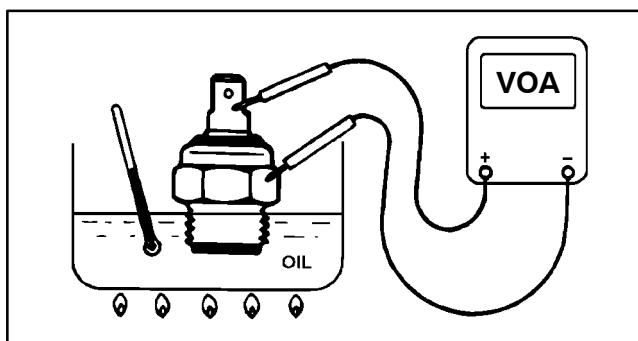

Figure 33
2. Put switch in a container of oil with a thermometer and slowly heat the oil (Fig. 33).